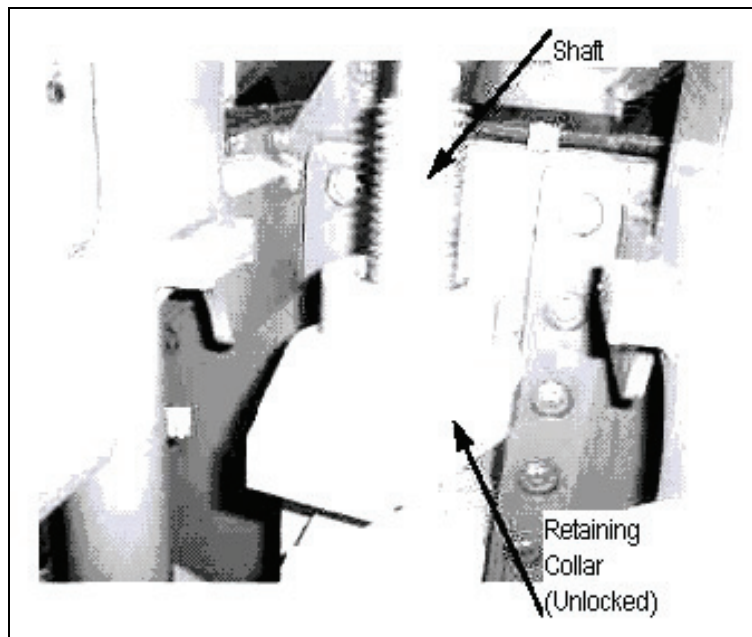

Figure 3-155. Turning Bogie Wheels Retaining Collar
- s. Turn bogie wheels retaining collar and then turn clockwise to unlock bogie wheels, and if retaining collar is still tight, use handle stowed forward of bogie wheels to rotate shaft (see Figure 3-155).